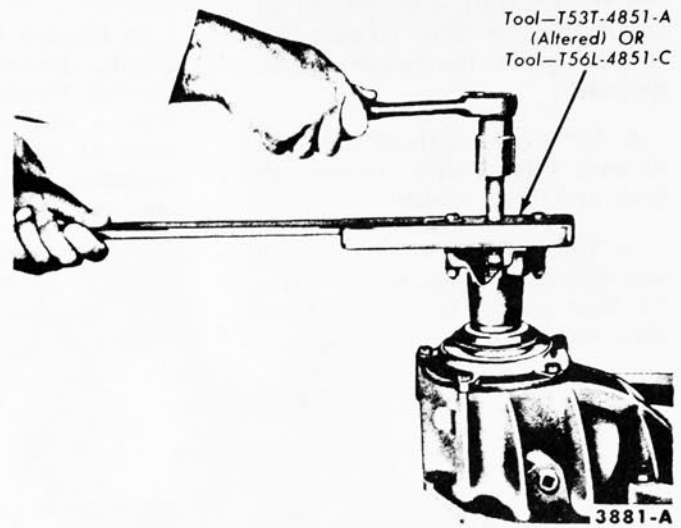

FIG. 10—U-Joint Flange Removal
7. Turn the carrier case upright, and remove the pinion shaft nut (Fig. 9). Then remove the U-joint flange (Fig. 10).